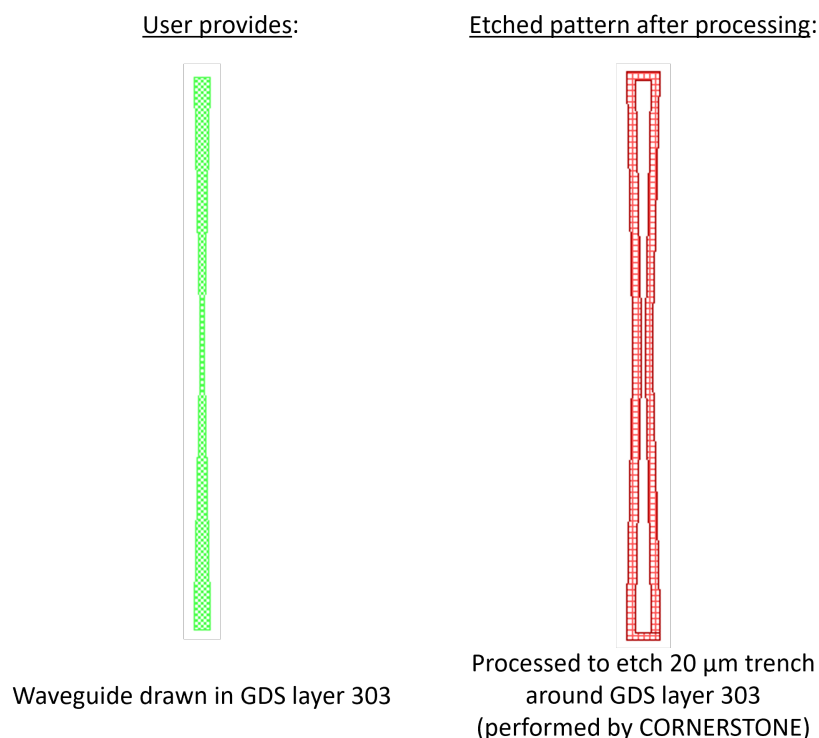

Figure 3: Description of GDS Layer 303 processing.
- GDS Layer 303: Drawn objects on this layer will be protected from the germanium etch. Users should draw the waveguides and any other features to remain following the $1.8\ \mu\text{m}$ germanium etching. During fracturing processing, this will be translated into a pattern that defines $20\ \mu\text{m}$ -wide trenches on either side of the waveguides drawn in GDS layer 303 (see Figure 3).